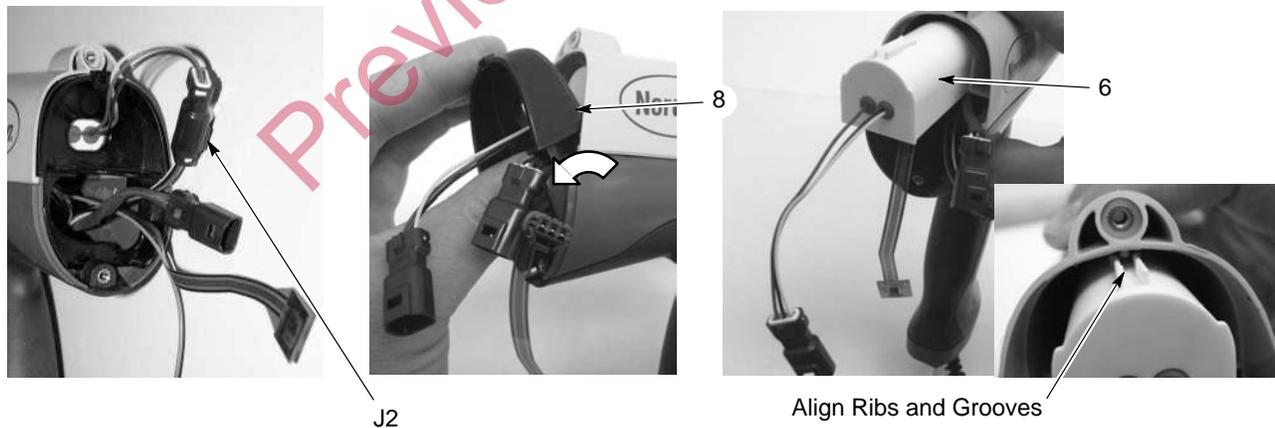

Figure 5-2 Power Supply Replacement
2. See Figure 5-2. Insert a small screwdriver into the recess in the J2 gun cable/power supply connectors to release the catch and disconnect the connectors.
3. Pull on the top of the bulkhead (8) to remove it from the gun.
4. Slide the power supply (6) out of the gun body and pull the power supply leads and connector out of the bulkhead.
12. See Figure 5-2. If you removed the power supply, slide it into the upper cavity of the gun body, guiding the guide ribs inside the gun body between the mating grooves on the power supply.